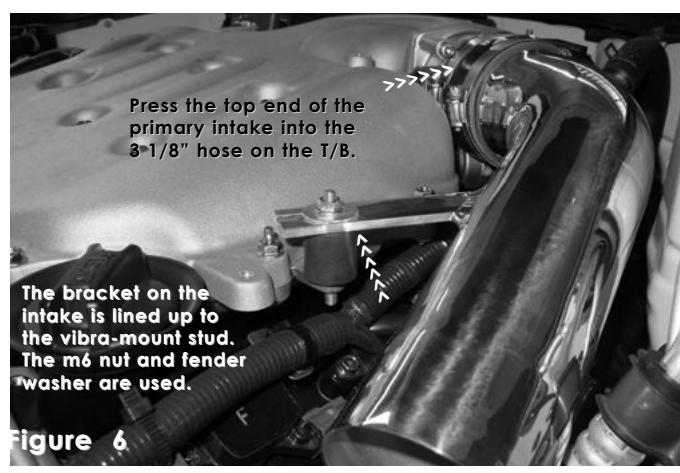

Figure 6
6. Take the primary intake and press the end with the nipple into the hose on the throttle body, semi-tighten the clamp on the throttle body at this point. At the same time you will want to line up the intake bracket to the vibra-mount stud and use the m6 nut and fender washer to secure the intake in place. (See fig. 6)